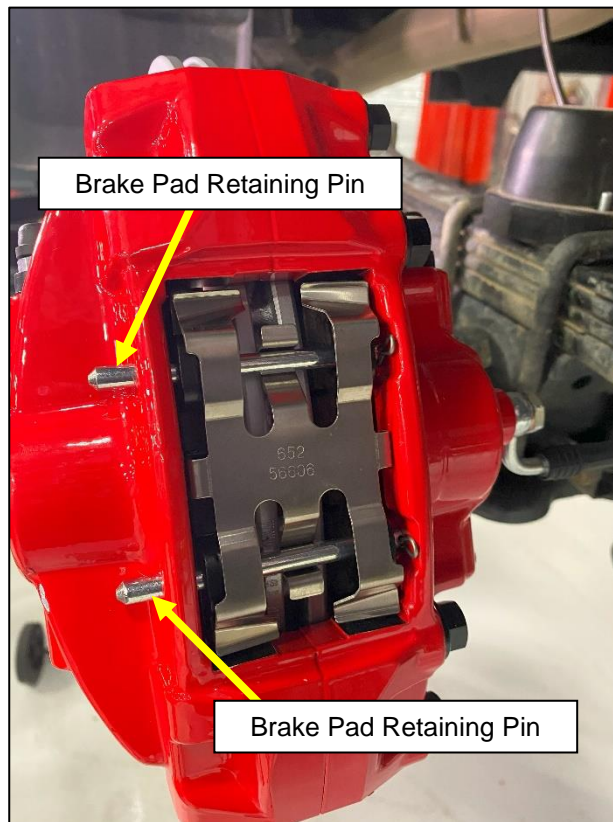

Figure 13
23. Locate (2) two Front Brake Retaining Pins. Insert them through the inside of the Caliper as shown. The Pins will go through the Ears of the Brake Pads and over the middle of the Pad Retainer. The Pins may need to be slightly tapped with a hammer to go through the Caliper. *Figure 13.*